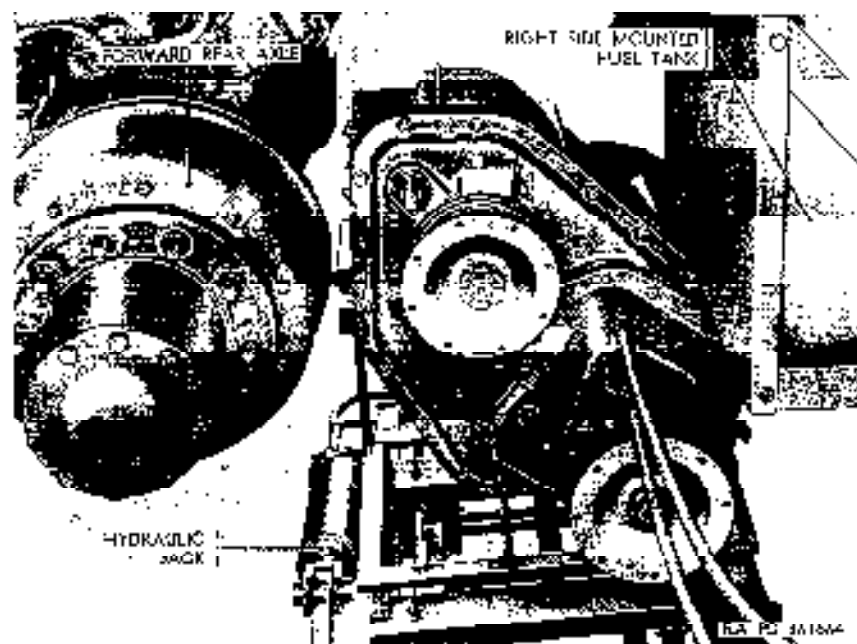

Figure 207. Pulling transfer truck under right side of truck.
- (14) Turn hydraulic jack until right side of transfer is parallel to forward rear axle (fig. 207), and pull jack and transfer from under right side of truck.
- (2) With transfer supported in lowered position on hydraulic jack, push jack and transfer under right side of truck immediately forward of and parallel to forward rear axle (fig. 207).